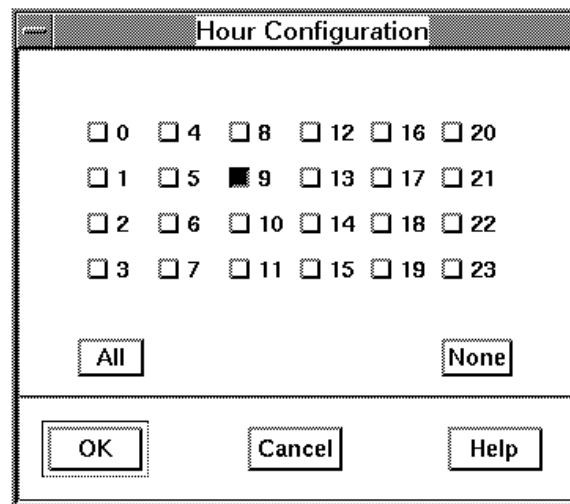

Figure 3-55. Hour Configuration for 9 AM
- d. Remove the selection from 0 by clicking on 0 (or **None**). Then select **9**, Figure 3-55, and click on **OK**. This selects 9:00 AM.